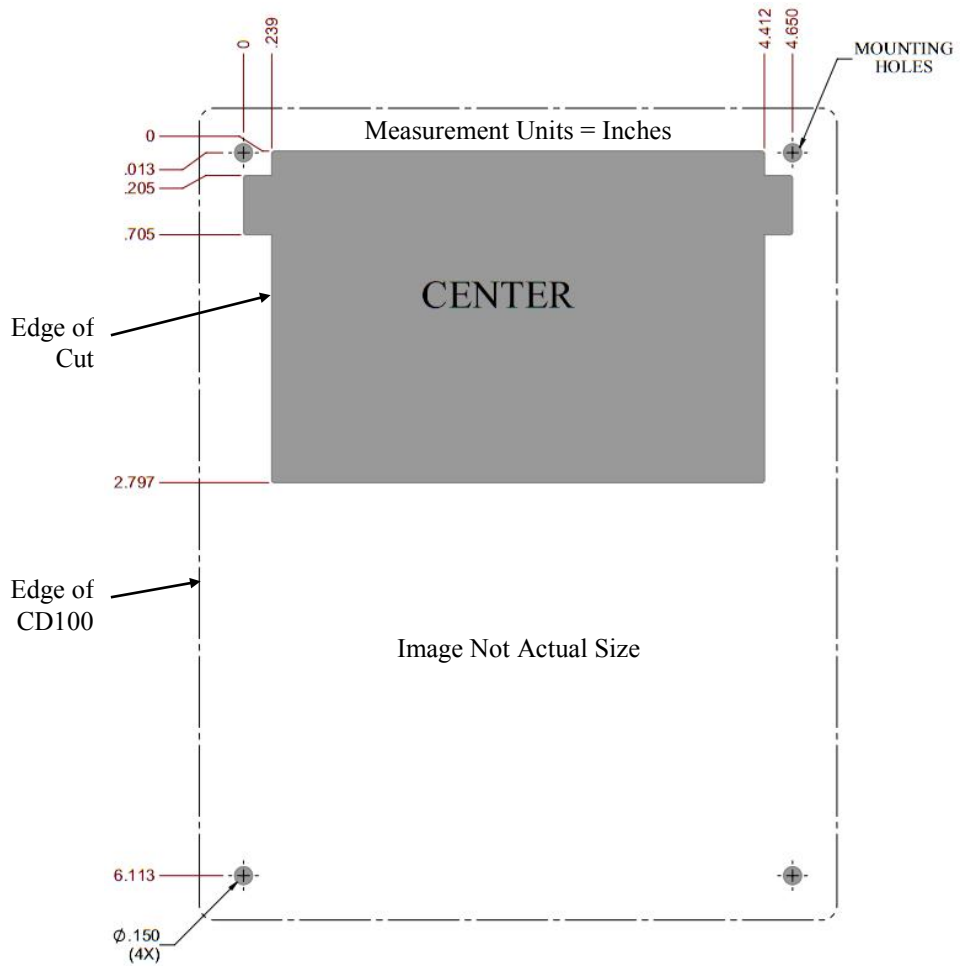

FIGURE 6-1. Template measurements for serial numbers less than 1311
1. Use the template shipped with the CD100 or create a template using the measurements shown in FIGURE 6-1, *Template measurements for serial numbers less than 1311*.